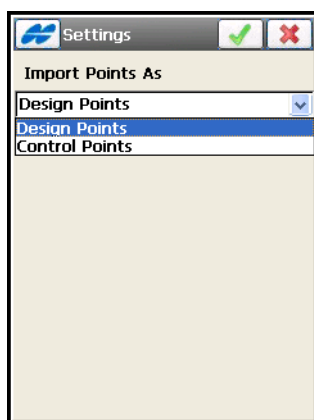

Figure 5-4. Settings
- **Settings** – opens a dialog to select to import points as either *Design* or *Control* (see Figure 5-4).